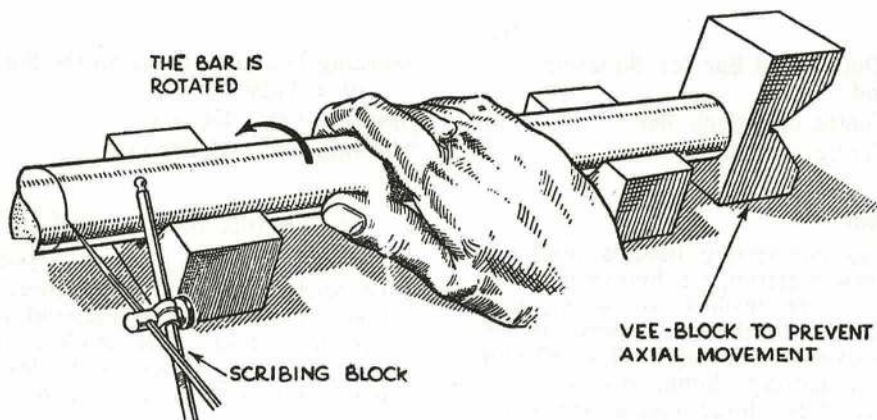

Fig. 1. MARKING OUT ROUND BAR FOR SQUARING-UP END
5. **Squaring-up End of Bar or Tube.** Fig. 1 shows a simple method of marking-off for squaring-up the end of a round bar or tube. The bar or tube is supported in a pair of V-blocks which set it up parallel to the surface of the table, and a third V-block, laid on its side, abuts the end of the bar to prevent axial movement. The scribe is clamped firmly in the scribing block at a height and angle which brings